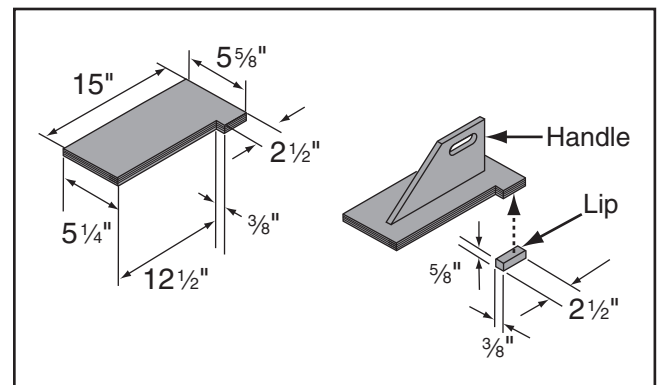

Figure 83. Push block dimensions and construction.
3. Using $\frac{3}{4}$ " material you used in previous steps, cut out pieces for push block per dimensions shown in **Figure 83**; for handle, cut a piece 10" long by 5"–9" high and shape it as desired to fit your hand.